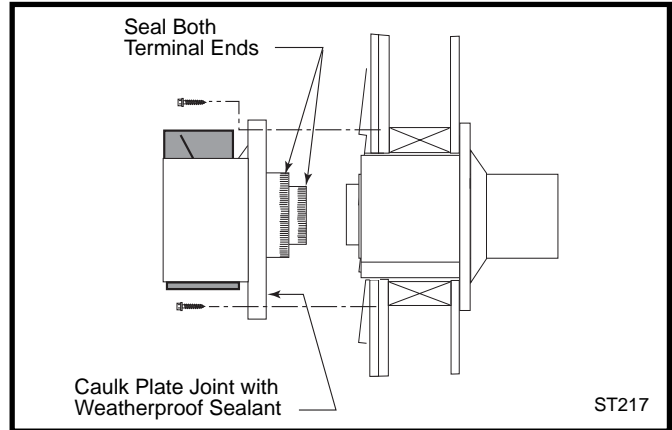

Fig. 27 Install the vent terminal.
**10. For both CFM and DuraVent Systems:** Install the vent terminal. (Fig. 27) Apply high temperature sealant one inch from the ends of the inner and outer collars. Guide the inner and outer vent termination collars into the adjacent pipes. Double check that the vent pipes overlap the collars by 2". Fasten the termination to the wall with the screws provided, and caulk the joint with weatherproof sealant.